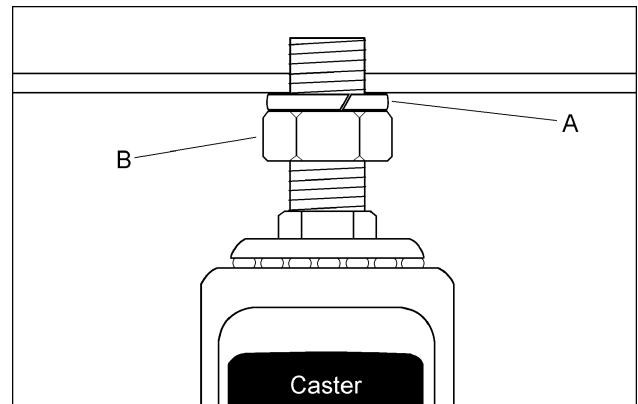

Fig. 1
1. Install four casters to the under side of the base as pictured in Fig. 1. Thread the hex nut (B, Fig. 1) onto the caster shaft. Then slide the lock washer (A, Fig. 1) over the caster shaft. Thread the caster shaft into the threaded hole on the underside of the base, turn until snug. Tighten the nut (B, Fig. 1) against the base with a 9/16" or 14mm wrench. This will give the caster proper clearance.